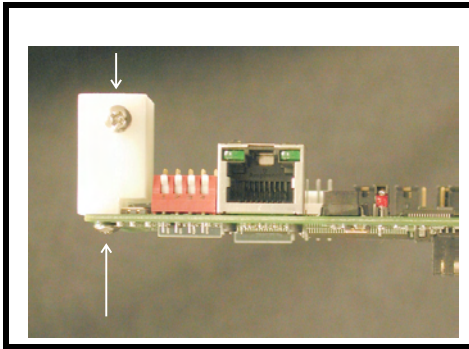

Figure 3. The placement of the spacer and screw position on the RVON-1 card.
5. Mount the **supplied spacer** on the RVON-1 card on the corner of the card near the DIP switch. See Figure 3 on page 16.